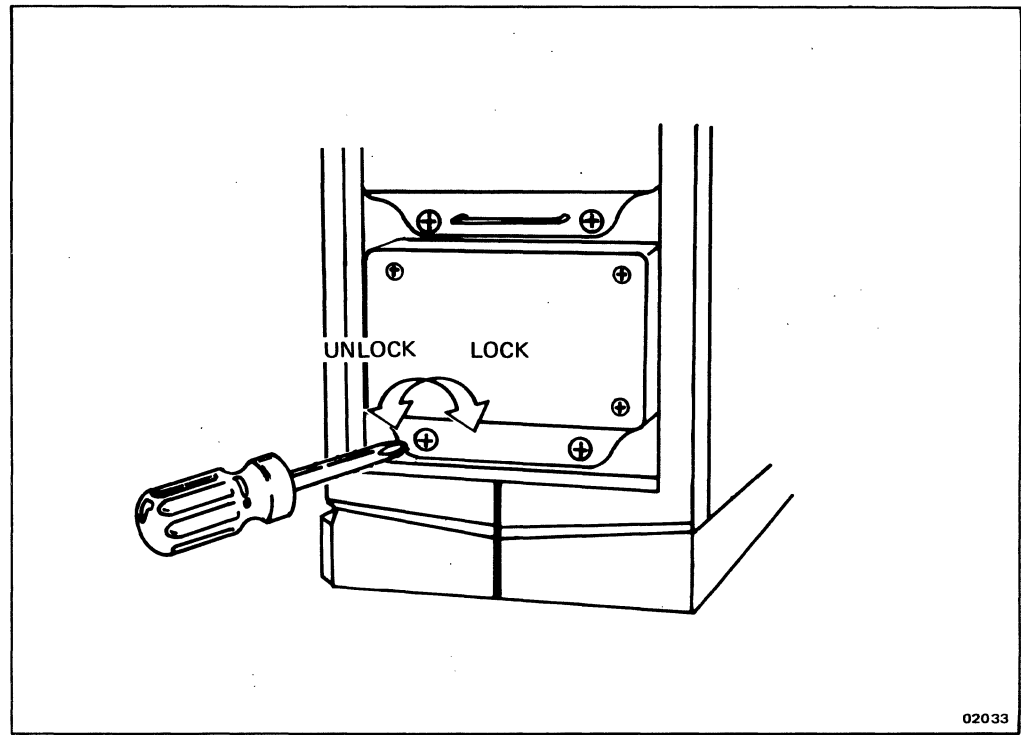

Figure 6-8. Unlocking/Locking the Hard Disk Drive Mounting Screws
4. Use a #2 Phillips screwdriver to turn the two screws on the drive mounting bracket a 1/4-turn counterclockwise as shown in Figure 6-8.
5. Use a #2 Phillips screwdriver to turn the two screws on the mounting bracket a 1/4-turn clockwise as shown in Figure 6-8.